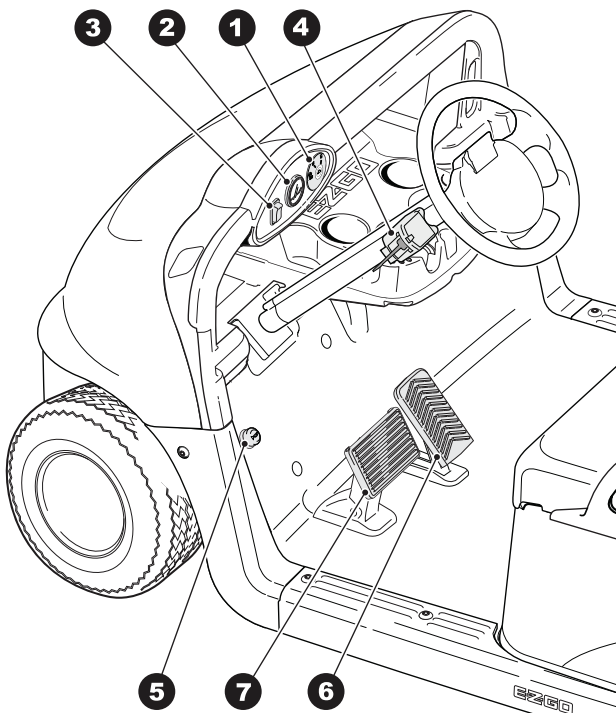

Fig. 8 Operator Controls & Gauges
If the vehicle is equipped with a speedometer / state of charge meter (2), it is located in the dash panel to the left of the key switch (1) (Ref. Fig. 8). The speedometer displays the MPH, SOC, vehicle mileage, and errors/warnings. The SOC meter indicates the amount of usable power in the batteries. The state of charge meter on the electric vehicle shows the condition of the battery pack with F indicating a full charge on the battery pack and E indicating the battery pack needs to be charged.
If the vehicle is equipped with headlights, the ON/OFF switch (3) is located on the instrument panel to the left of the key switch (1) (Ref. Fig. 8).
If the vehicle is equipped with turn signals, the switch (4) is mounted on the steering column (Ref. Fig. 8).
If the vehicle is equipped with a horn, the horn button (5) is located on the driver's side floorboard; depressing the button will sound the vehicle's horn (Ref. Fig. 8).
With the key switch in the 'F' or 'R' position, depressing the accelerator pedal (6) starts the motor and will move the vehicle in the direction indicated on the key switch/direction selector. This vehicle is equipped with a motor brake; when the accelerator pedal is released, the motor will stop. To stop the vehicle more quickly, depress the service brake pedal (7)(Ref. Fig. 8).